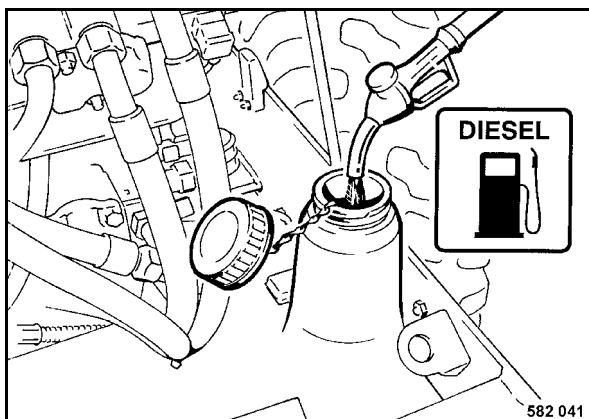

Fig. 60
- Open the fuel tank cover (Fig. 60).